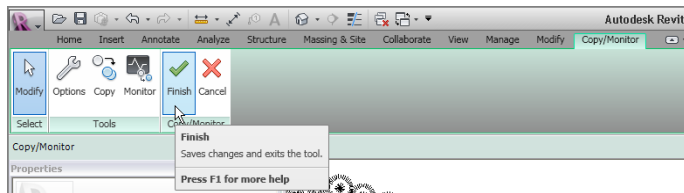

FIGURE 20.9: Clicking Finish
10. Click Finish, as shown in Figure 20.9.